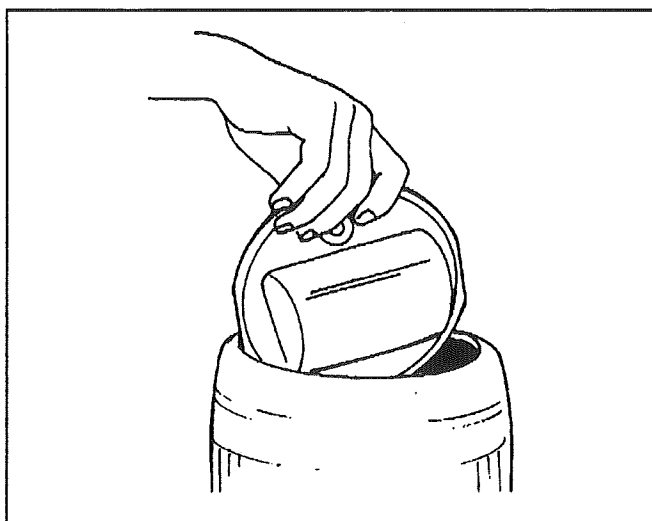

FIG. 10
- Rotate upper retainer in order to align its two (2) flat surfaces with the wall of bellows, then press on it to elongate the opening and remove the upper retainer by pulling it out (see figure 10).